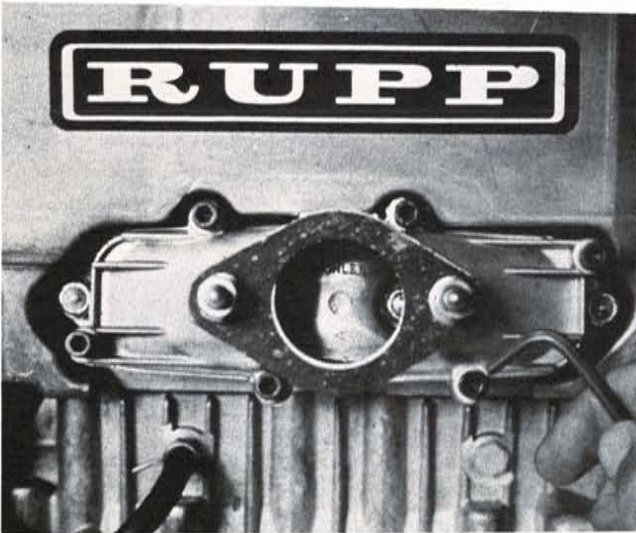

FIG. 8
6. Remove six screws that secure carburetor side of intake manifold. (Fig. 8)